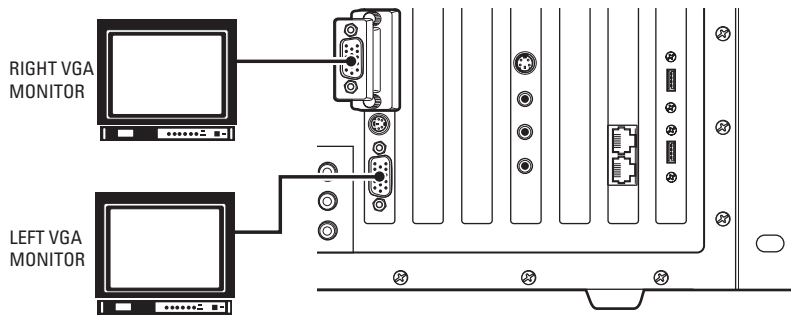

Figure 20. How to Connect Monitors to a VMX300(-E) Workstation
- **Dual-monitor systems:** Connect the left monitor to the bottom input and the right monitor to the top input (refer to Figure 20).